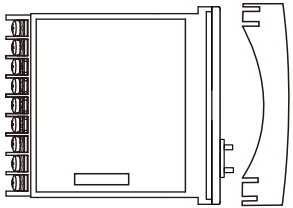

Figure 3
- Cover the transparent cover after setting (Figure 3).